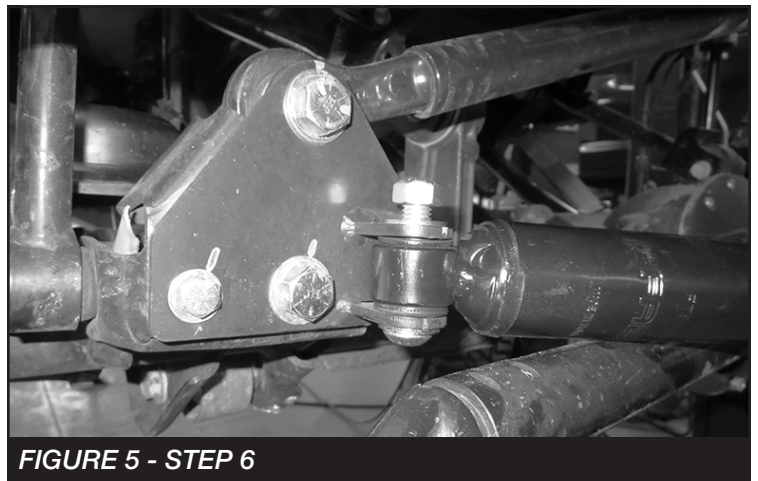

FIGURE 5 - STEP 6
6. Locate the FTS6610 (Stealth Stabilizer). Install the provided sleeves into the bushings. Then, install the stabilizer to the bracket using the 1/2" button head bolt, nut and washers. **NOTE: Install the bolt from the bottom side.** Torque to 106 ft-lbs. **SEE FIGURE 5**